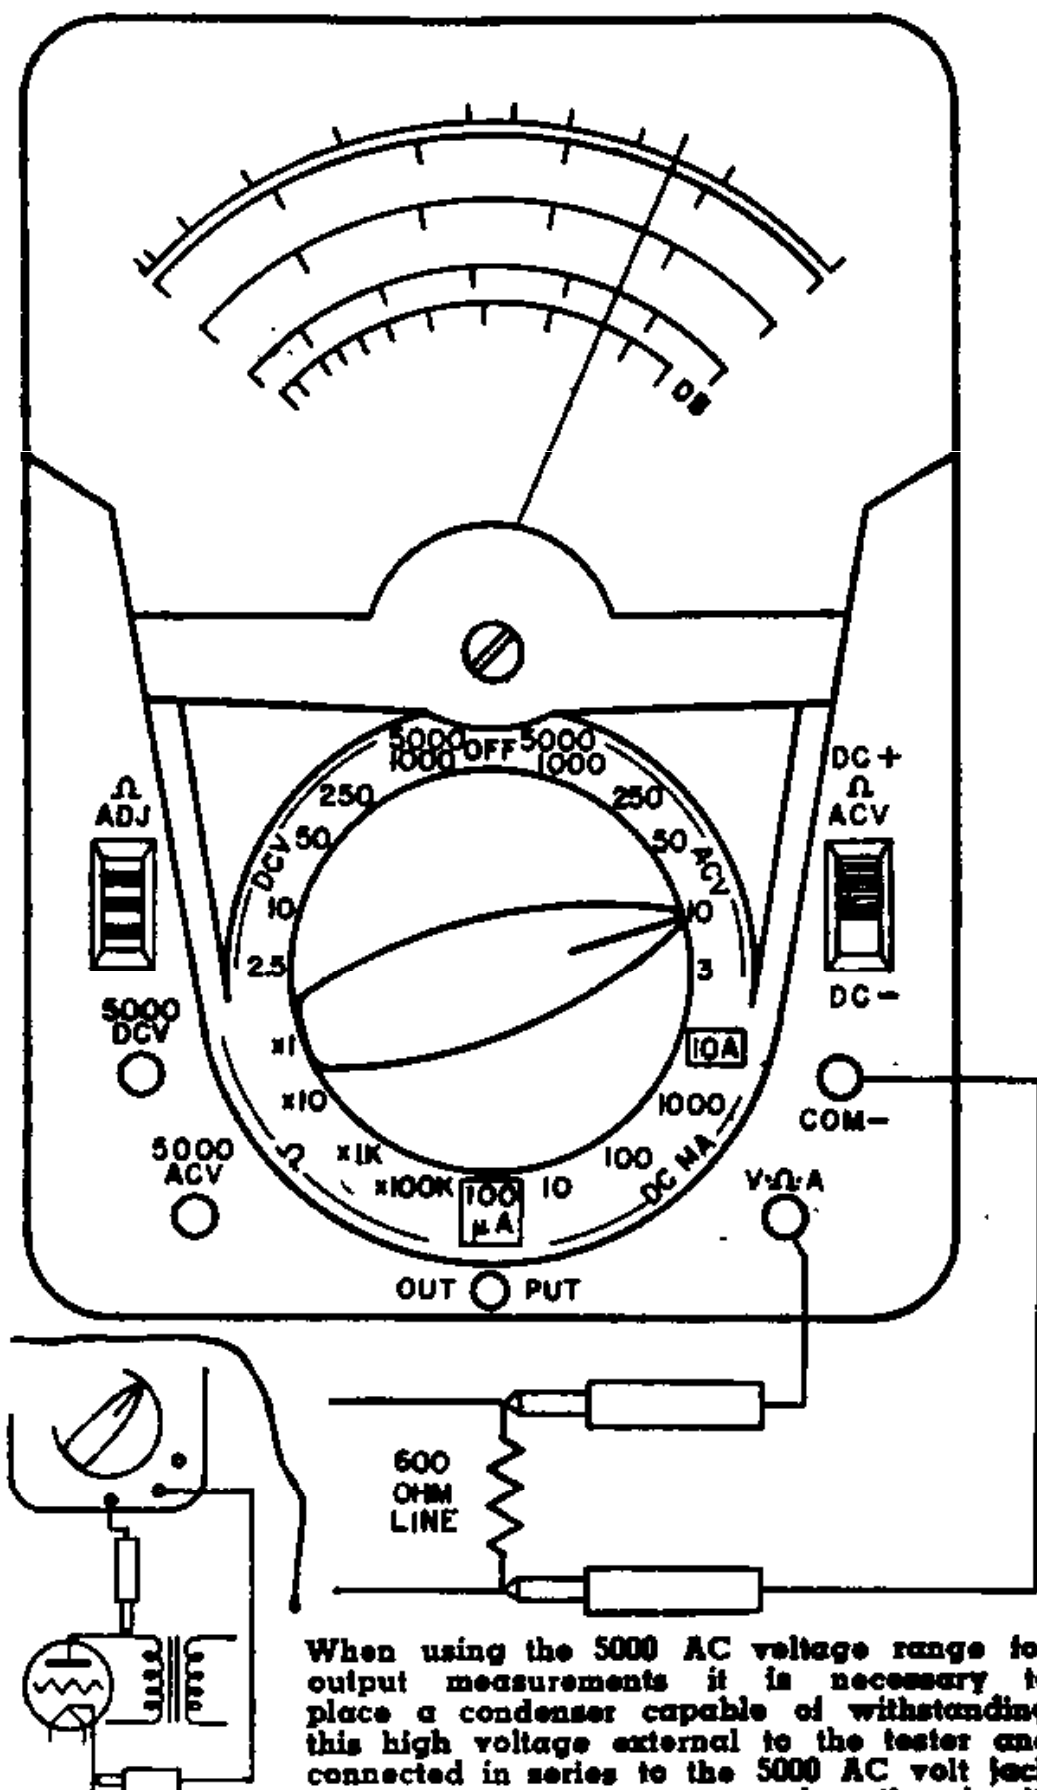

Figure 5—Measuring Output Volts (DB)
Measuring Output Volts (DB) (Fig. 5)
Normally it is recommended to measure output by plugging the black lead into the COM jack and the red lead into the OUTPUT jack as shown in Figure 5.